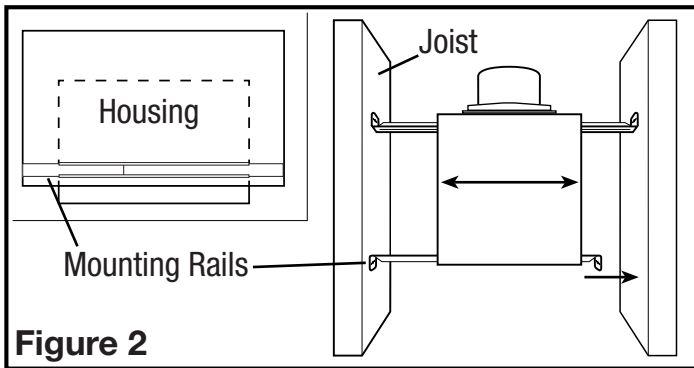
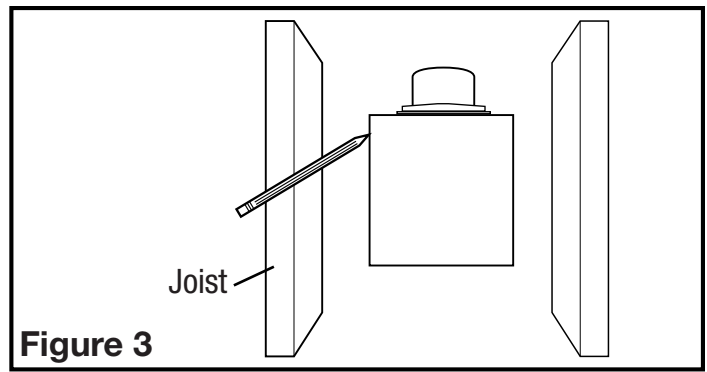

Figure 2
Figure 3
1. Install the rails into the mounting channel on the housing. Center the mounting channel in the slots on the housing, then from inside the housing tighten the mounting channel nuts so the channel is securely in place. Position the housing next to the joist. Line up housing so that it will be flush with the finished ceiling. Secure the ends of the rails with screws or nails (not included) to the joists and slide the housing into the final position (Figure 2).
1. Set housing in position between the joist and trace an outline onto the ceiling material (Figure 3). Set housing aside and cut opening, being careful not to cut or damage any electrical or other hidden utilities. Install the rails into the mounting channel on the housing. Center the mounting channel in the slots on the housing, then from inside the housing tighten the mounting channel nuts so the channel is securely in place. Position the housing in the previously cut hole so that it is flush with the finished ceiling. Secure the ends of the rails to the joists (Figure 2).